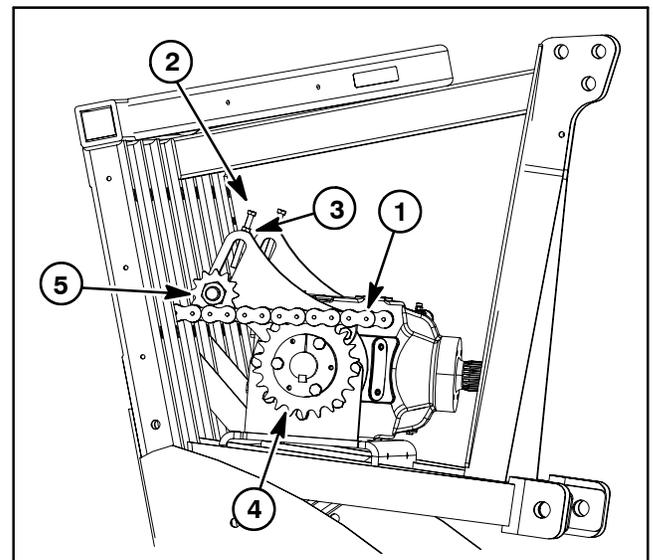

Figure 15
3. Loosen jam nuts (items 4 and 8) and jam rod (item 11) to remove idler tension on drive chain.
5. Remove drive chain from gearbox, coring crankshaft and idler sprockets (Fig. 15).
A. Position drive chain to gearbox sprocket, pull lower run of chain tight and align with coring crankshaft sprocket teeth. If necessary, slightly rotate coring crankshaft so that chain remains tight when aligned with sprocket teeth. Route chain under idler sprocket and back to gearbox sprocket (Fig. 15). Do not allow lower run of chain to have excessive slack.
B. Apply grease to master link O-rings. Place two (2) O-rings on master link pins and install into ends of drive chain. Place final two (2) O-rings on master link pins and install side plate.